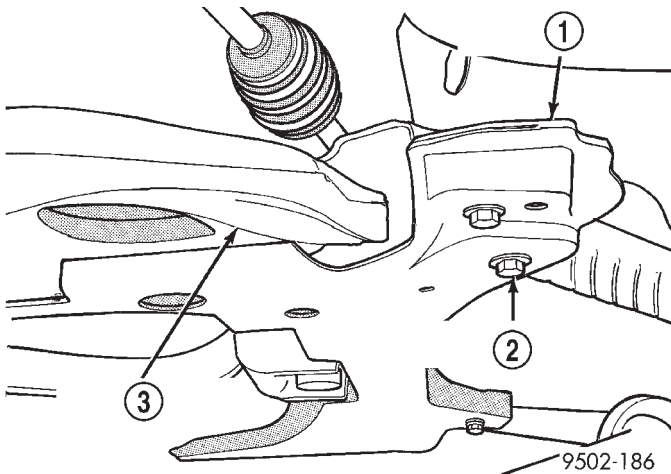
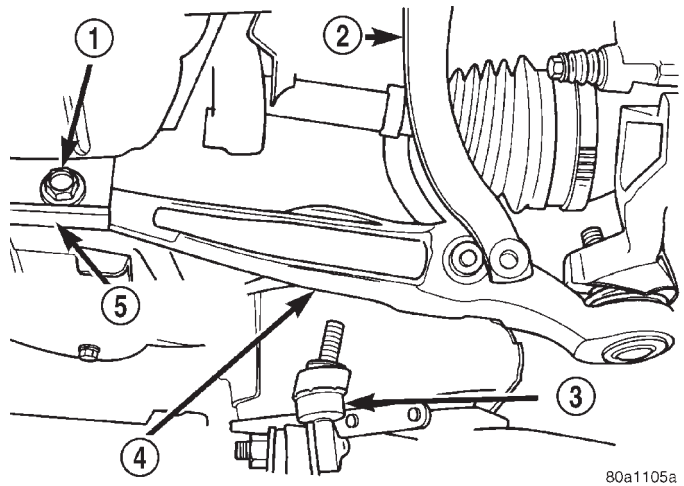

Fig. 50 Lower Control Arm Attachment To Front Suspension Crossmember
Fig. 51 Attaching Front Of Lower Control Arm To Suspension Crossmember
(10) Lower the one side of the stabilizer bar away from the lower control arm and body of vehicle.
(11) Remove the nut and bolt (Fig. 50) attaching the rear of the lower control arm to the front suspension crossmember.
(12) Remove nut and bolt attaching the front of the lower control arm to the front suspension crossmember (Fig. 51).
(1) Position rear of lower control arm into front suspension crossmember first. Then install front of lower control arm in front suspension crossmember. Install bolts and nuts (Fig. 51) and (Fig. 50) attaching the front and rear of lower control arm to front suspension crossmember. **Do not tighten front attaching bolt at this time.**
(2) Tighten lower control arm rear attaching nut and bolt (Fig. 50) to a torque of 95 N·m (70 ft. lbs.).
(12) Tighten front lower control arm nut and bolt (Fig. 51) to a torque of 182 N·m (135 ft. lbs.).
(13) Install wheel and tire assembly.
(14) Tighten the wheel mounting stud nuts in proper sequence until all nuts are torqued to half specification. Then repeat the tightening sequence to the full specified torque of 135 N·m (100 ft. lbs.).
(15) Remove jack stand from under lower control arm and lower vehicle to the ground.
(16) Check the vehicles alignment specifications and set front Toe to preferred specifications.